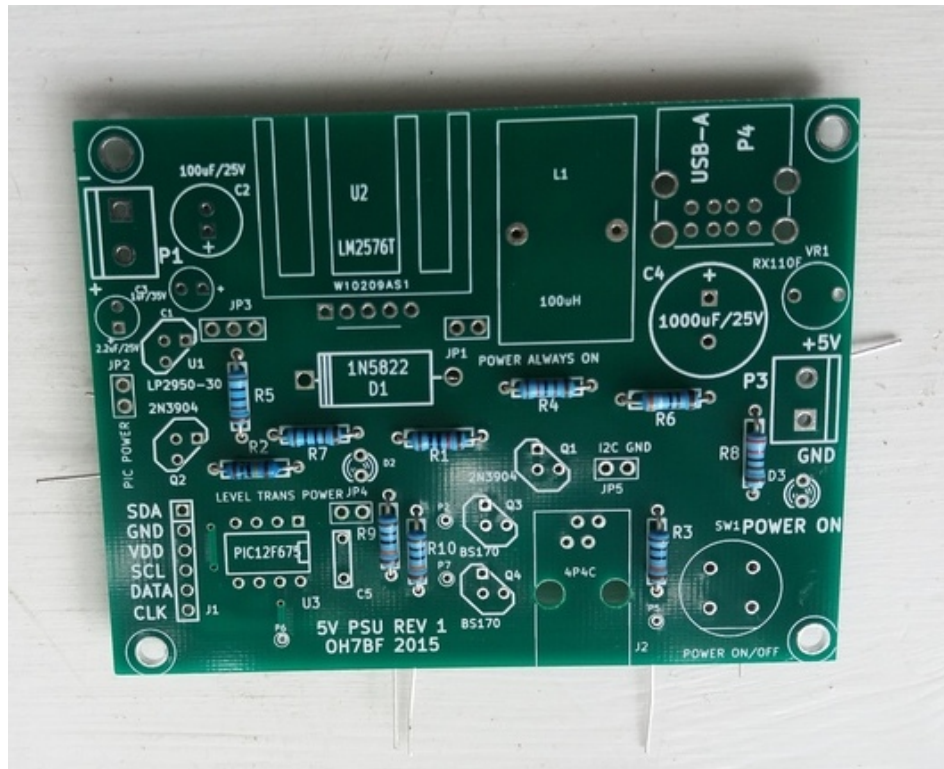

Figure 1: Soldering of resistors R1 - R10 on PCB. Cut and trim the leads on the other side.
4. Start by soldering all the resistors R1 - R10 on the printed circuit board. The silk screen has reference designator for each of them, see Fig. 1. Verify the resistance values with a multimeter before soldering.